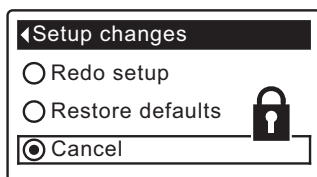

FIG. 28
8. Press the RIGHT (▶) button. A flashing padlock icon will appear, as shown in Figure 28.
- 1-7. Go to the **Setup changes** screen (Figure 28) by following Steps 1-7 at left.